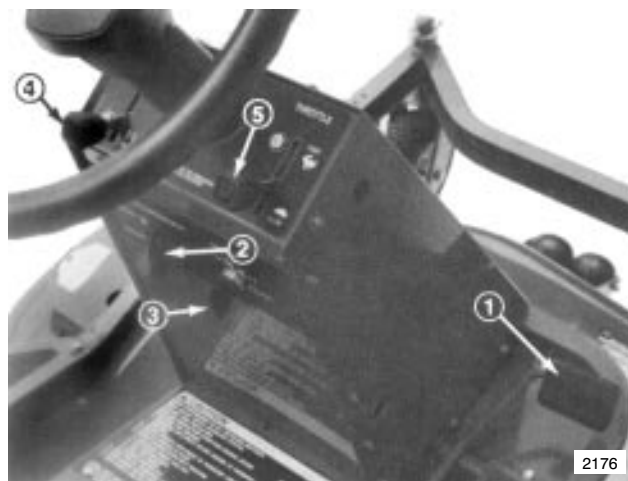

Figure 7
1. Move the throttle lever to “SLOW” (Fig. 7).
2. Turn the ignition key to “OFF” (Fig. 7).